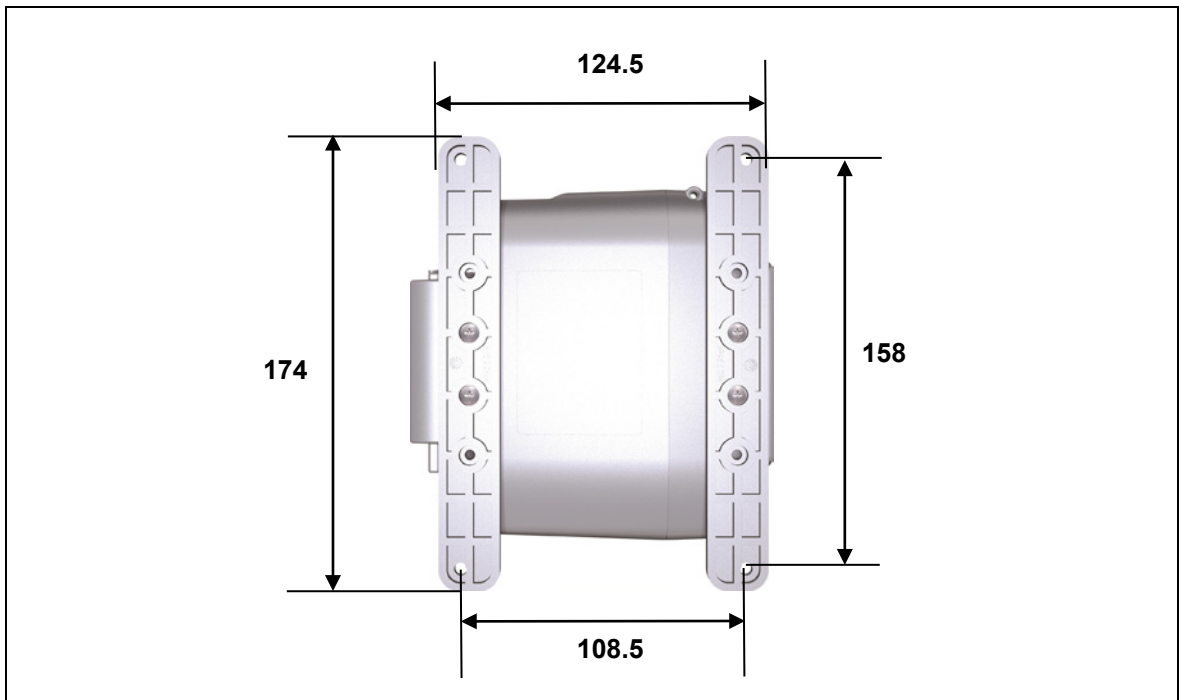

Figure 12 Mounting dimensions of the adapter. View from below (in mm)
- 1 The control unit is screwed onto the end product by using four screws for the four mounting points (e.g. DIN 7981 screws with 4.8 mm diameter and suitable length of 6 mm plus screw-in depth) as shown in Figure 13. The mounting dimensions are shown in Figure 12.